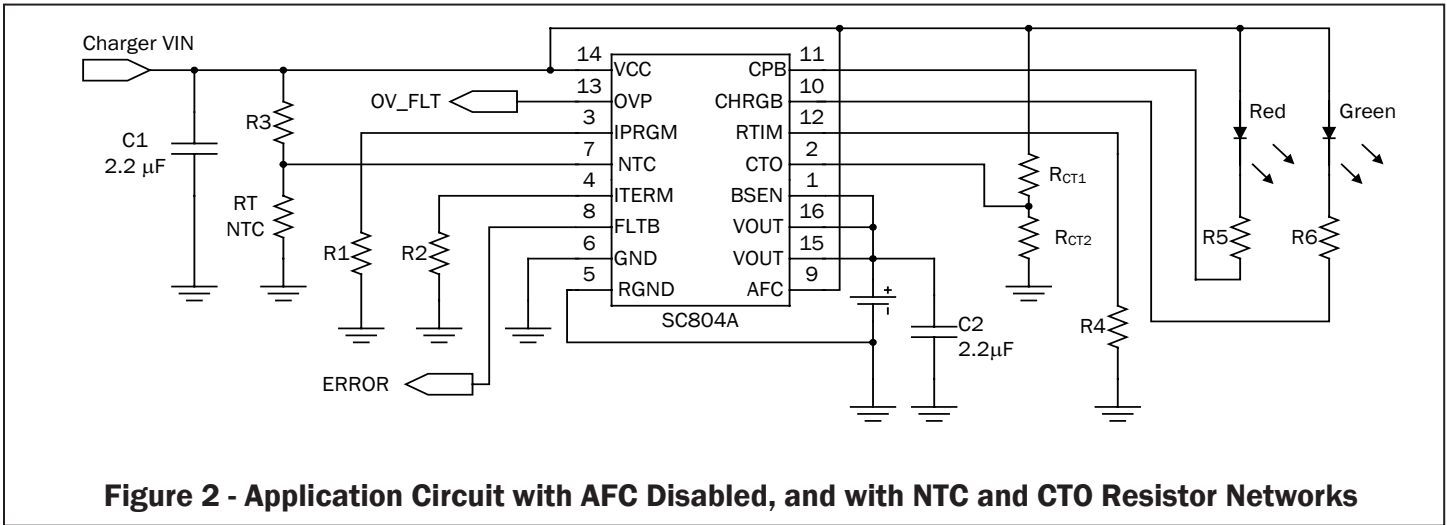

Figure 2 - Application Circuit with AFC Disabled, and with NTC and CTO Resistor Networks
This feature is especially useful if a single PCB design is needed to satisfy similar applications with different requirements. The temperature range for normal charging can be adjusted by adjusting resistor values on a divider network without changing the NTC thermistor, which is often enclosed in the battery pack. An example of a typical application is shown in Figure 2.
The following example assumes the NTC network configuration of Figure 2, with a fixed resistor R3 connected between NTC and VCC, and a battery NTC thermistor RT connected between NTC and ground. The battery temperature range over which charging is permitted is 0°C through 40°C. The datasheet for the selected NTC thermistor indicates that $R_T = 5.839k\Omega$ at 40°C, at $R_T = 26.49k\Omega$ at 0°C, with a dissipation constant DC = 3mW. Designate $R_{HOT} = 5.839k\Omega$ and $R_{COLD} = 26.49k\Omega$.
Step 4: *Configure CTO.* If NTC_{COLD} is sufficiently close to the default cold threshold ($V_{NTCC} \times V_{VCC}$), then simply connect CTO to ground, disabling the CTO function, to complete the design. But in this example it is not, so the voltage on CTO must be set to $0.6591 \times V_{VCC}$. The simple resistive voltage divider network of Figure 2 can be used to obtain the desired CTO voltage.